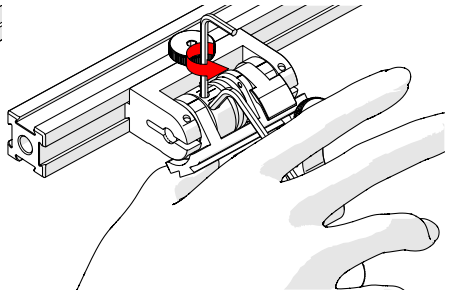

Fig. 202 - Press 3 mm hex wrench down
5. Lightly press the long arm of the 3 mm hex wrench down. Using the 2 mm hex wrench, loosen the force adjustment screw but do not remove it (Fig. 202).